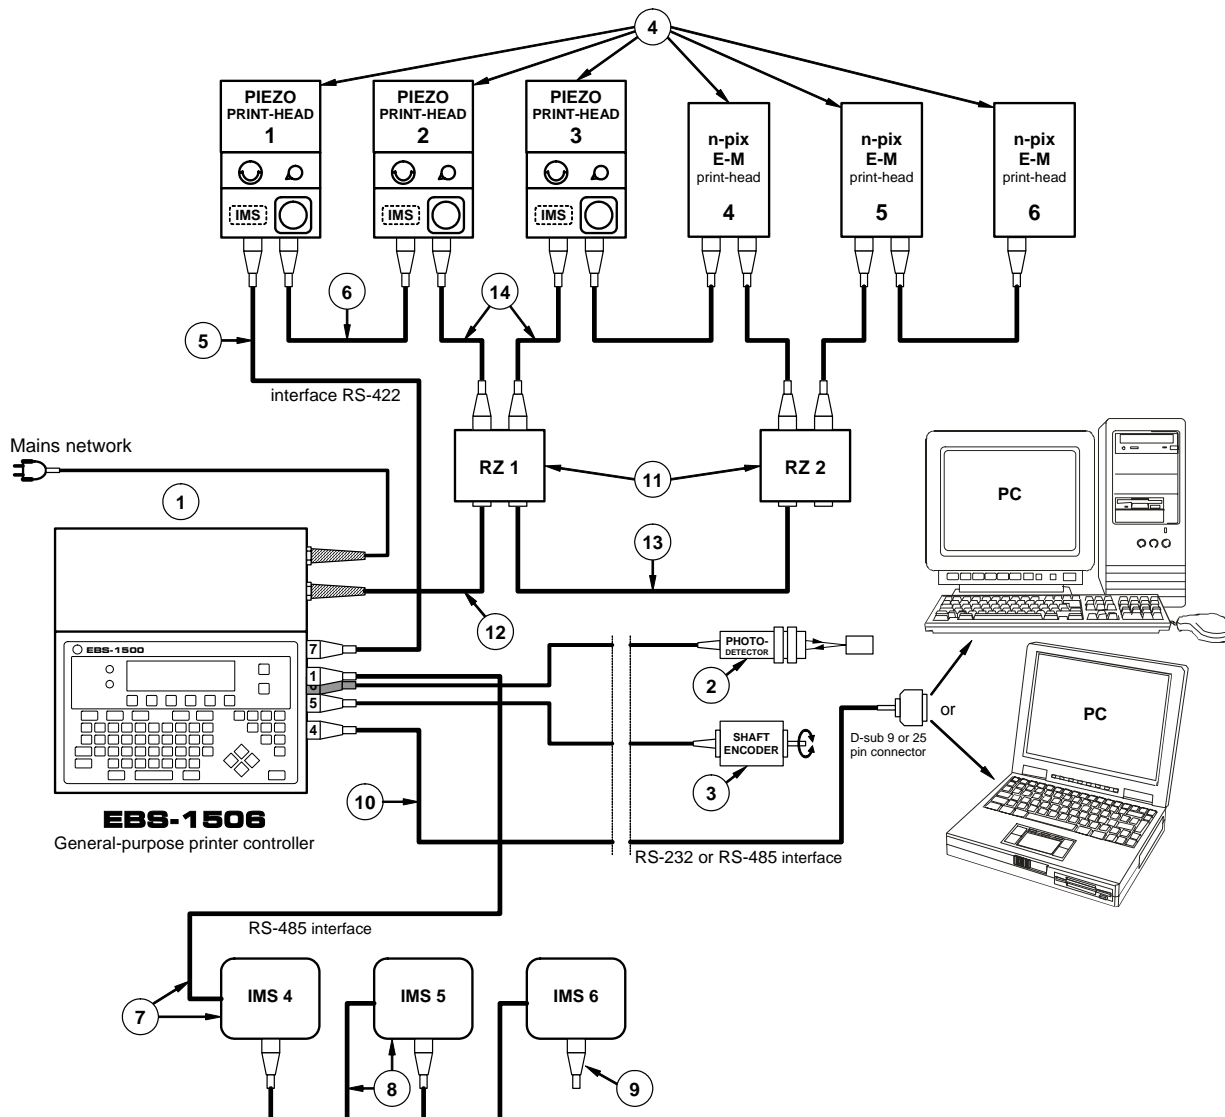

Fig. 4.6.1.2. Connection diagram for a printing system with three piezoceramic print-heads and three electromagnetic print-heads
- The six-head printing system shown in **Fig. 4.6.1.2** is an illustration of how to connect the system elements. The system will work properly only when the requirements presented in section **4.1 Restrictions on Printing System Configuration** are satisfied and when it is designed in compliance with the guidelines given in section **4.7 Rules for designing a multi-head printing system**.